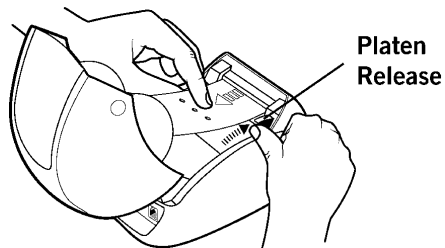

Figure 1-6. Push the platen release lever up as you pull the label back from the mechanism.
3. As you lift the platen release lever, pull the label out of the platen mechanism. (See Figure 1-6 below)